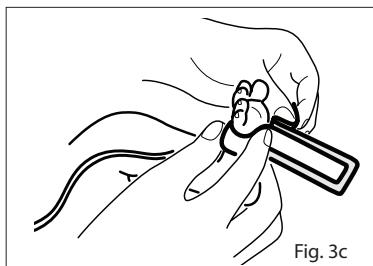

Fig. 3c
4. Refer to Fig. 3c. Wrap the adhesive/foam wrap around the lateral aspect of the foot (or hand) and ensure that the emitter window (\*) aligns directly opposite of the detector. Be careful to maintain proper alignment of the detector and emitter windows while attaching adhesive/foam wrap to secure the sensor.